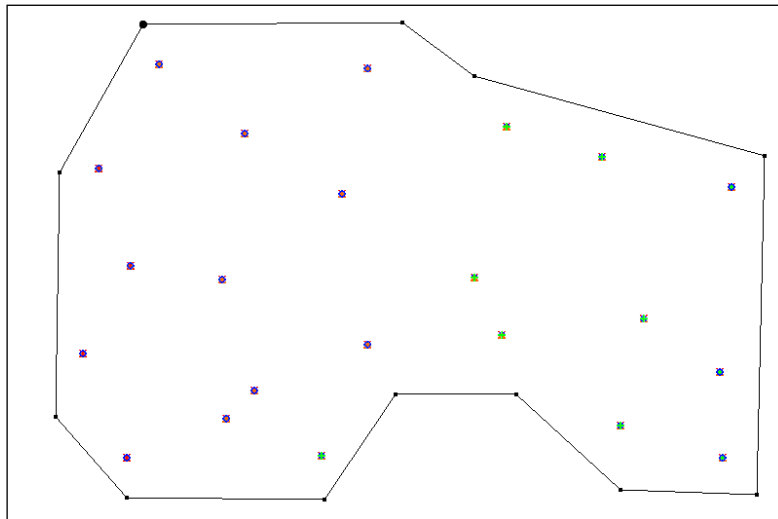

Figure 2 Closed arc enclosing the scatter points
3. Using the **Create Arc**  tool, click out a closed arc as shown in Figure 2. Click on the starting point to finish creating the closed arc.